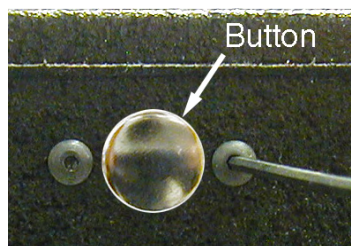

Figure 15. Loosening Socket Head Cap Screws
4. With a small flat screwdriver, remove the button and then use a 1/16" hex tool to remove both plate mounting screws. See Figure 15.